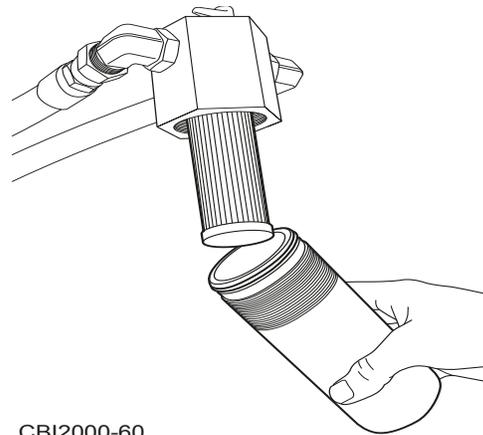

Figure 6.57 - Remove Bowl from Filter Housing
4. Remove Bowl - Unscrew the bowl and remove it from the filter housing (Figure 6.57).